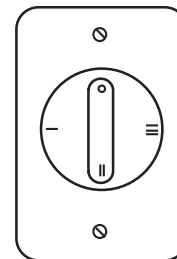

Figure 5
5. Check the operation of the fan by rotating the control through the four positions marked 0 - III ("0" position is OFF) (Figure 5).